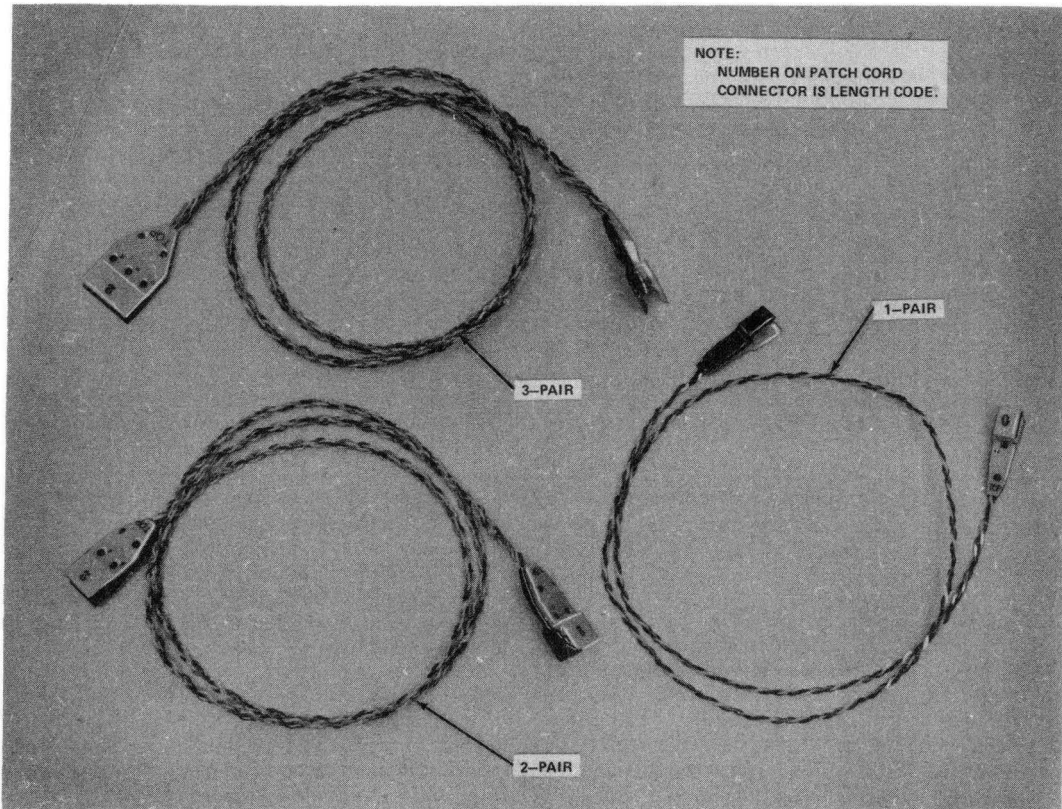

Fig. 9—88P-Type Patch Cords
2.12 The 88P-type patch cords (Fig. 9) are intended primarily for use with the Customer Administered Terminal Move Service (CATMS), but may have applications with other installations of 88-type wiring and connecting blocks. They are available with 1, 2, or 3 pairs in fifteen discrete lengths from 25 to 235 centimeters. Stranded 24-gauge wire with PVC insulation is used. Attached to each end of the patch cord is a fire-resistant plastic connector which plugs into an 88-type connecting block mounted on the front of a wiring block. The connector is designed to fit over the teeth of the connecting block in such a way that pair alignment is maintained. The word "TOP" is visible on the white upper side of each connector to assure that leads are not reversed. The 88P-type patch cords are reusable and require no tools for installation or removal. A complete list of patch cords is contained in Table B.